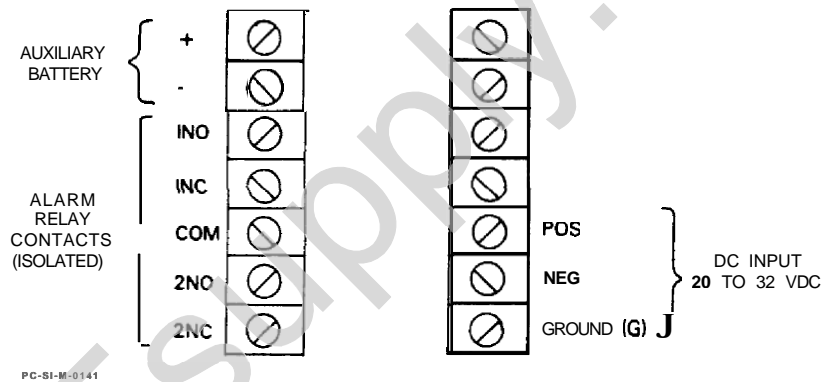

FIGURE 4. FRONT-PANEL TERMINAL BLOCK
12. Remove the plastic cover on the lower portion of the power supply and attach the DC wire, as well as the battery and alarm wires, as they were on the original supply (Refer to Step 6 and Figure 4). Replace the plastic cover.
15. If the POWER light does not come on, the power supply may be bad, source voltage may not be turned on, or there may be other problems within the rack. Please call the Programmable Control Service Center EMERGENCY SERVICE NUMBER (804) 978-5747 for assistance.